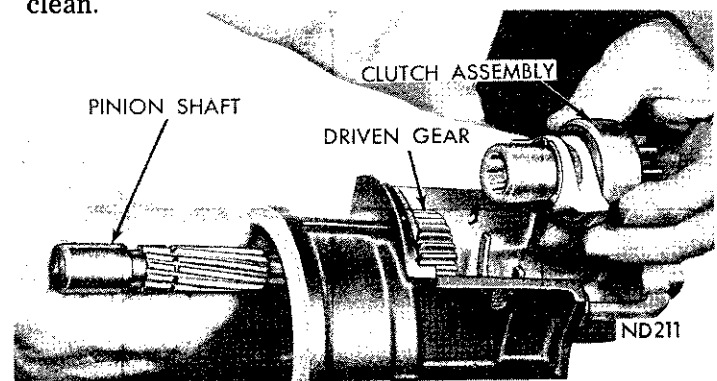
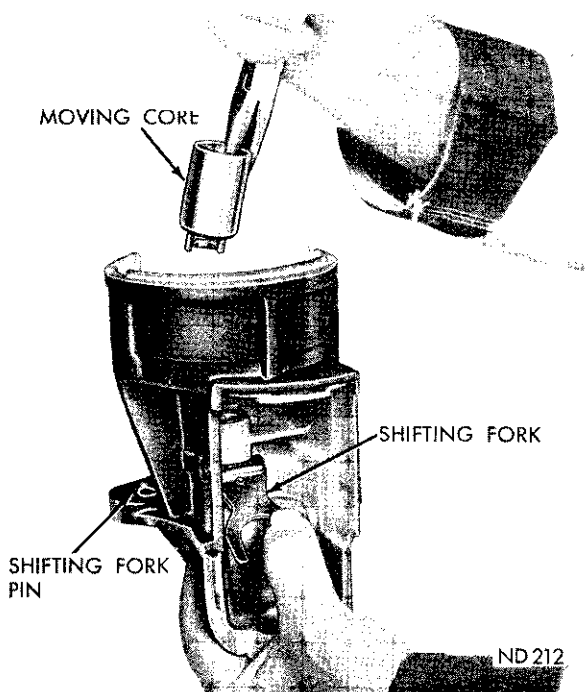

Fig. 9—Removing or Installing Clutch Assembly
Fig. 10—Removing or Installing Moving Core
clutch and pinion assembly, with the two shift fork nylon actuators as an assembly (Fig. 9).
(18) Remove driven gear and friction washer.
(19) Pull shifting fork forward and remove solenoid moving core (Fig. 10).
- (1) Position shifter fork in drive housing and install shifting fork retainer pin. One tip of pin should be straight, the other tip should be bent at a 15 degree angle away from the housing. The fork and retainer pin should operate freely after bending tip of pin.
- (2) Install solenoid moving core and engage shifting fork (Fig. 10).
- (3) Enter pinion shaft into drive housing and install friction washer and drive gear.
- (4) Install clutch and pinion assembly, thrust washer, retaining and thrust washer (Fig. 9).